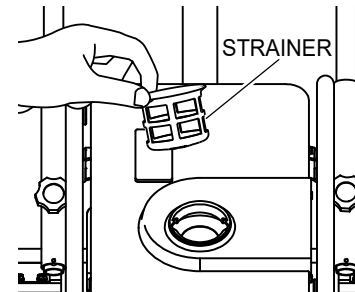

Figure 41. Fuel Strainer Removal
2. Remove the fuel tank cap and strainer (Figure 41).